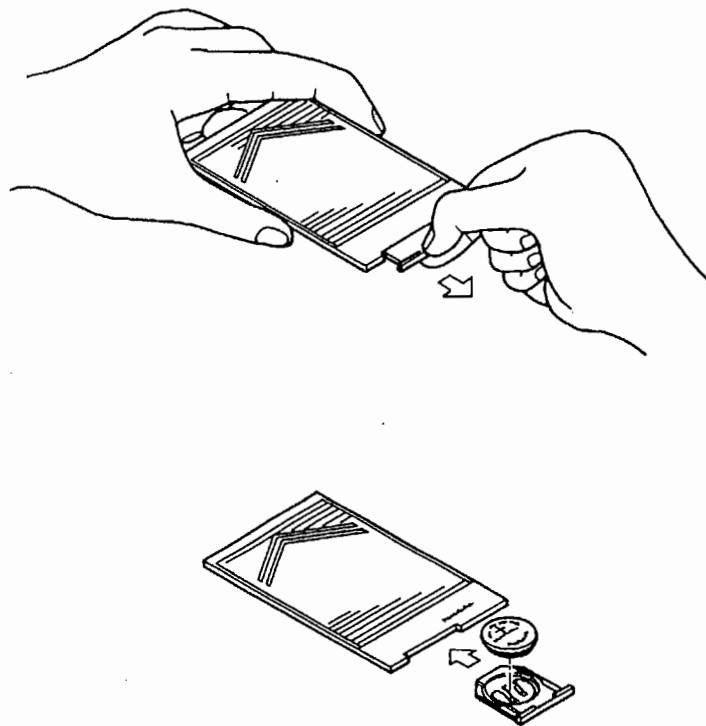

Fig 6.20
- (1) Hold the IC card so that the side which shows the part number faces upward.
- (2) Place your finger nail in the battery holder groove and pull it forward to take out the battery holder (Fig. 6.20).
- (3) Insert a new battery (B9586JU or B9586JV : optional) into the battery holder.
- (4) Insert the battery holder into the IC card.